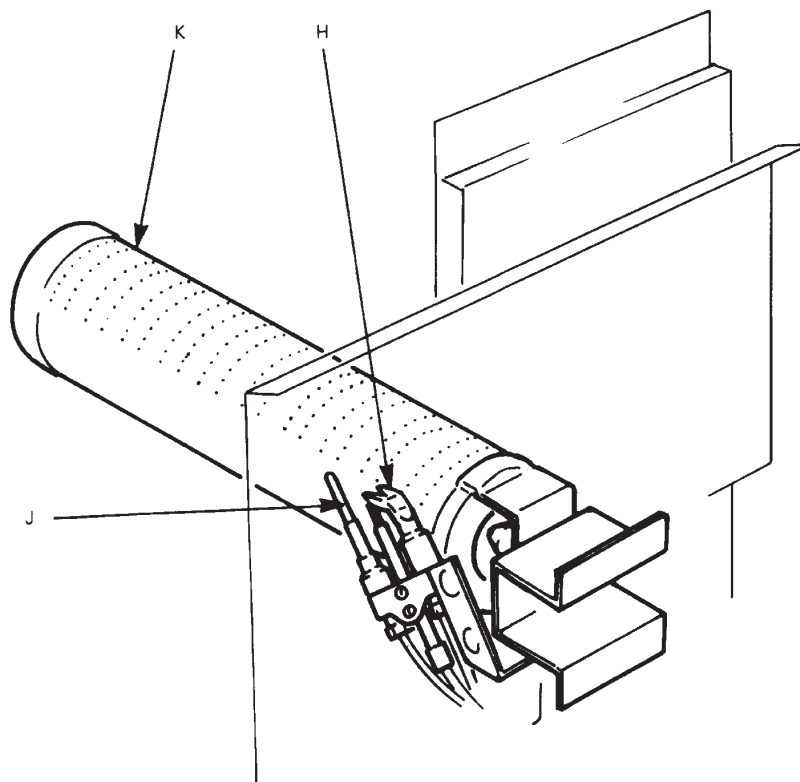

Fig. 7
LIGHTING THE BURNER - See Fig. 7
2. Ensure that the thermostat knob **D** is at the O position Fig. 7.
6. Keeping control knob **B** depressed fully simultaneously press Piezo Spark Generator **C** repeatedly until the pilot flame lights. This is visible through the sight glass **F** (Fig. 7) (A few seconds must be allowed for the gas to reach the pilot burner).
NOTE:- THIS APPLIANCE IS FITTED WITH A COMBUSTION DISCHARGE SAFETY DEVICE WHICH WILL SWITCH OFF THE MAIN BURNER IN ADVERSE FLUE CONDITIONS. BEFORE TURNING ON MAIN BURNER ENSURE THAT THE MANUAL RESET BUTTON IS DEPRESSED. (FIG. 7).